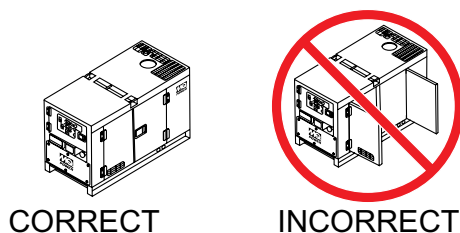

Figure 26. Engine Enclosure Doors
3. Close all engine enclosure doors (Figure 26).